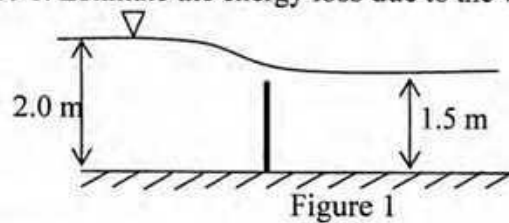

Figure 1
c. A sharp crested weir in a rectangular channel has a discharge $4 \text{ m}^2/\text{s}$ per unit width as shown in the Figure 1. Estimate the energy loss due to the weir. Take $\alpha = 1.2$. 5